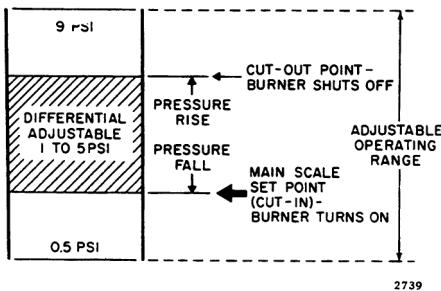

Fig. 8. PA404A (additive differential).
**TO SET THE PA404A WITH ADDITIVE DIFFERENTIAL (SEE FIG. 8)**